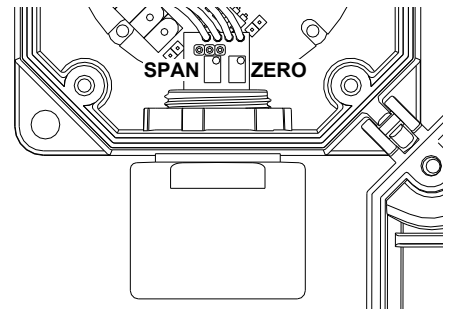

Fig. 9a: Position of Zero and Span controls on the sensor for combustible gases.
• With the transmitter in clean air, rotate the 'ZERO' trimmer (see Fig. 9a) in anti-clockwise direction, until the current stops at a minimum value (about 4.00mA), then turn the trimmer in clockwise direction until the value rises up a little bit (eg: 4.10mA), then turn slowly the trimmer in anti-clockwise direction until bringing the current as close as possible to the minimum value (eg: 4.00mA) without exceeding this value.